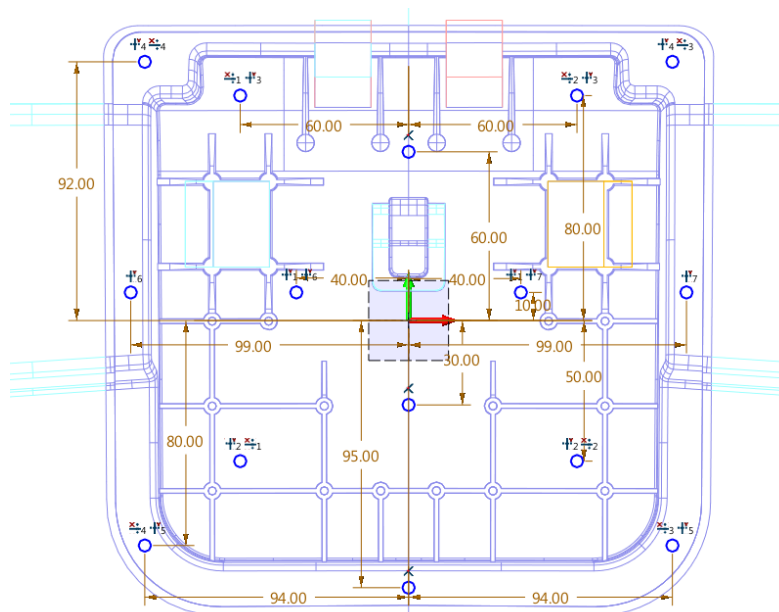

Figure 225 Well-Defined Points in Sketch
STEP 03 Draw the sketch as shown in Figure 225.